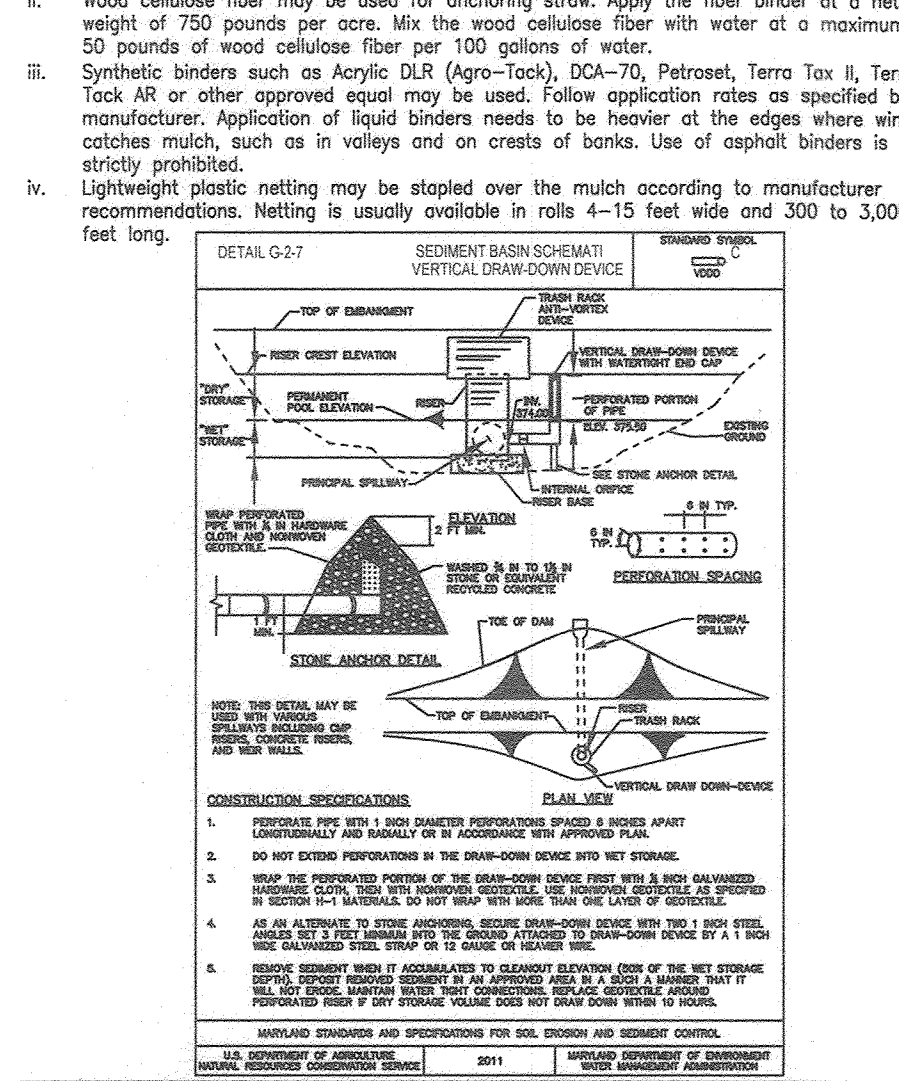

Figure B.3: Incremental Stabilization - Fill
a. Select one or more of the species or mixtures listed in Table B.3 for the appropriate Plant Hardness Zone (from Figure B.3) and based on the site condition or purpose found on Table B.2.